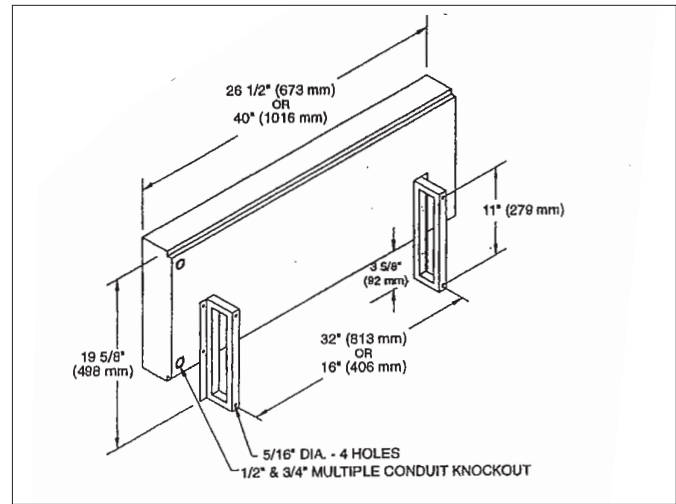
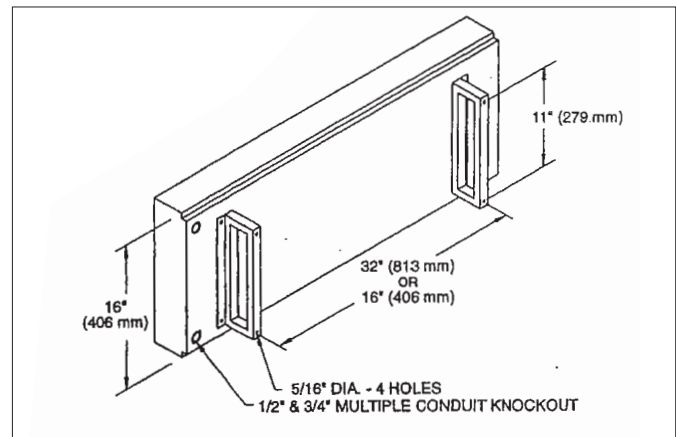

Figure 1 – Floor Mount
Figure 2 – Wall Mount
5. See Figure 1 – Floor Mount or Figure 2 – Wall Mount, page 3 for bracket mounting details.